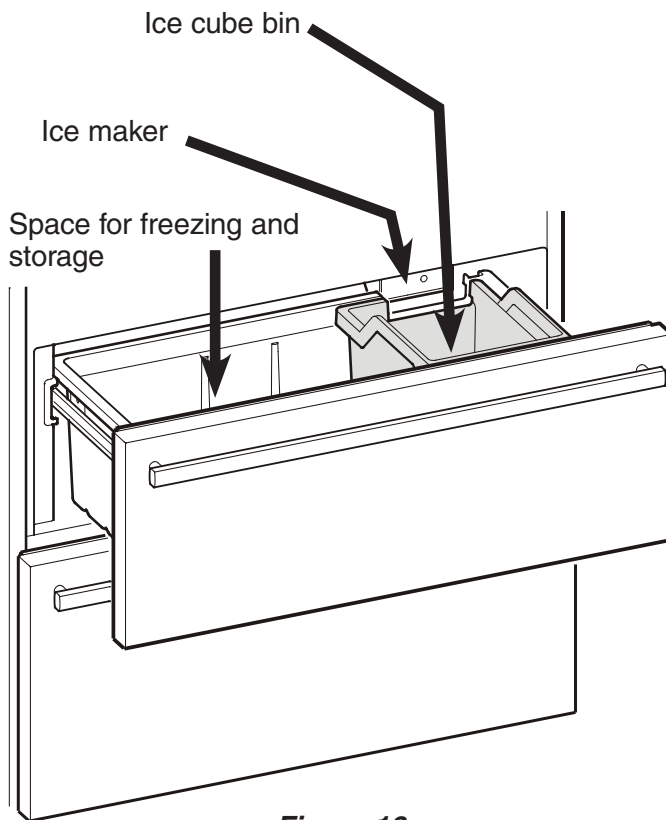

Figure 16
### Description - Figure 16
- The Ice Maker can only make ice cubes if the upper freezer drawer is completely closed and the ice cube bin is installed correctly (**Figure 16**).
- Finally clean the ice cube bin (**Figure 16**).
The ice cubes fall out of the Ice Maker into the ice cube bin (**Figure 16**). When the ice reaches a certain level in the bin, the appliance stops producing ice automatically. The ice maker will not fill the bin to the top.
Be sure the upper freezer drawer is completely closed and the ice cube bin is installed correctly. (**Figure 16**).